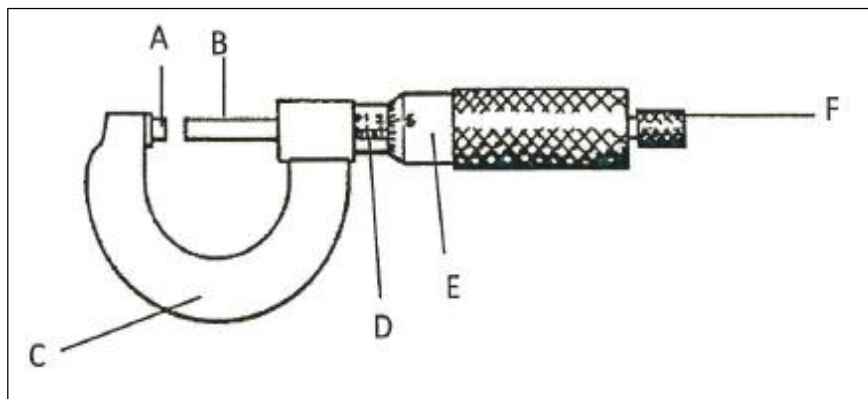

Figure 1a
- a) Name the parts labelled **A, B, C, D, E** and **F** as shown in **Figure 1a**.